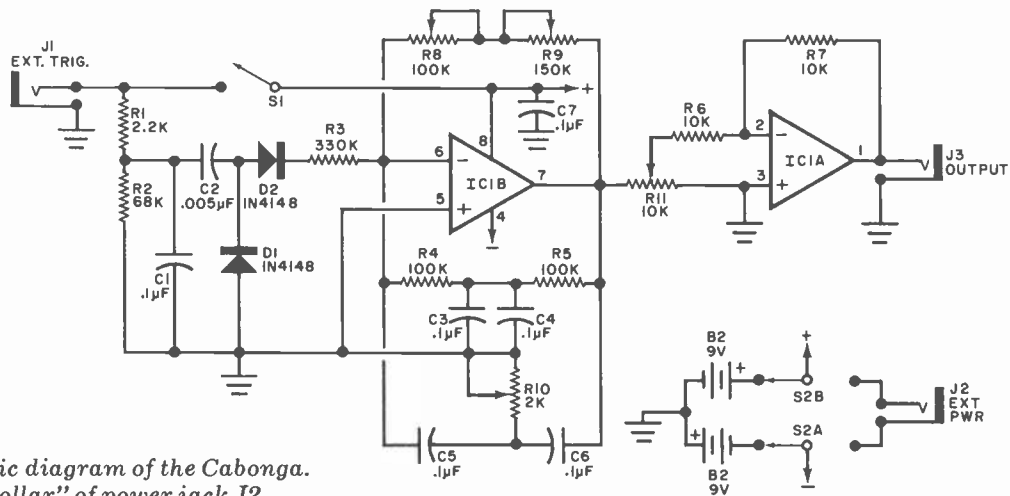

Fig. 1. Schematic diagram of the Cabonga. Note that the "collar" of power jack J2 is at -9 volts, not ground potential.
**About the Circuit.** The circuit of the Cabonga is shown schematically in Fig. 1. When the drum head is struck, *S1* closes and applies a positive-going pulse to *C1* and *R2*. This pulse is passed by *C2* and *D2* to the tone generator. When *S1* opens and *C1* discharges, the negative-going pulse produced is shunted to ground by *D1*.